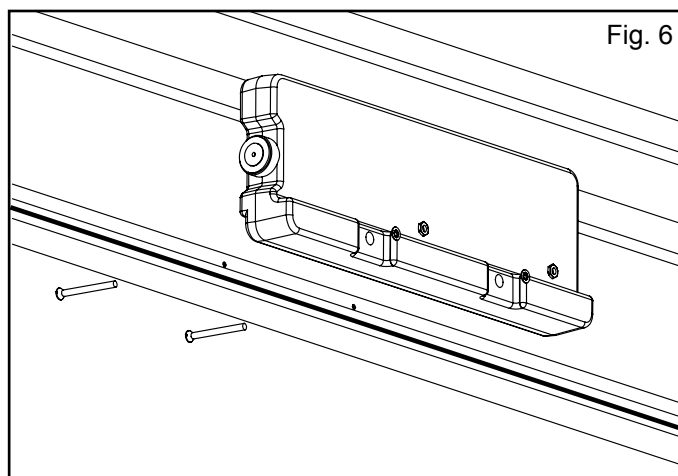

Fig. 6
3. Drill the two 4.5mm holes in the door and fit the weight bar using the new fasteners provided. (**Fig. 6**)